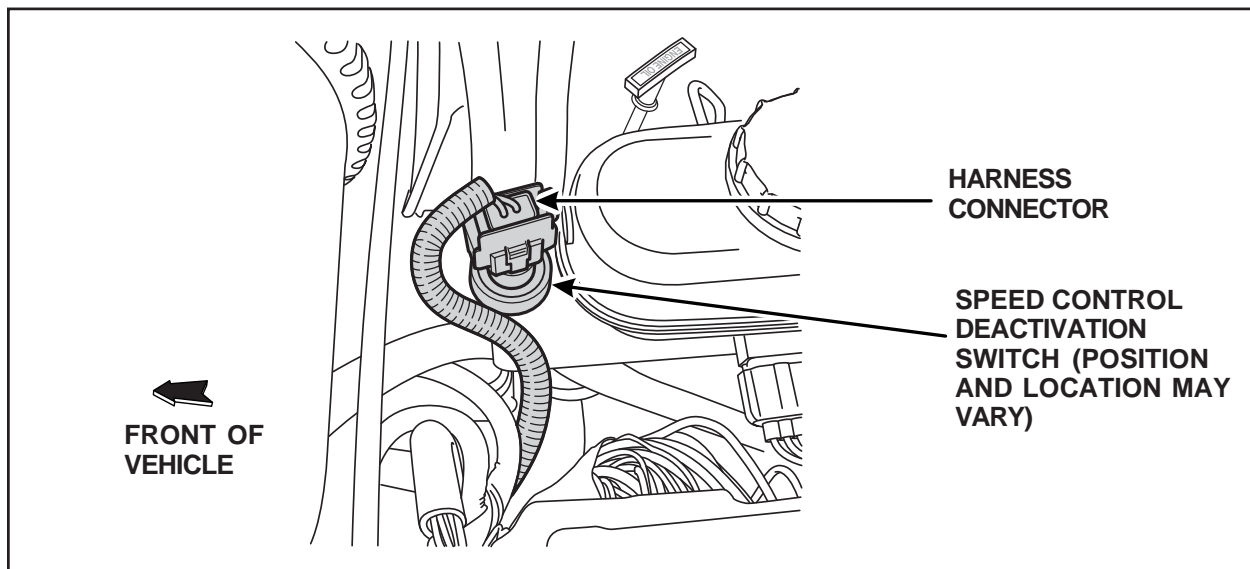

FIGURE 2
1. Disconnect the harness connector from the SCDS (See Figure 2).